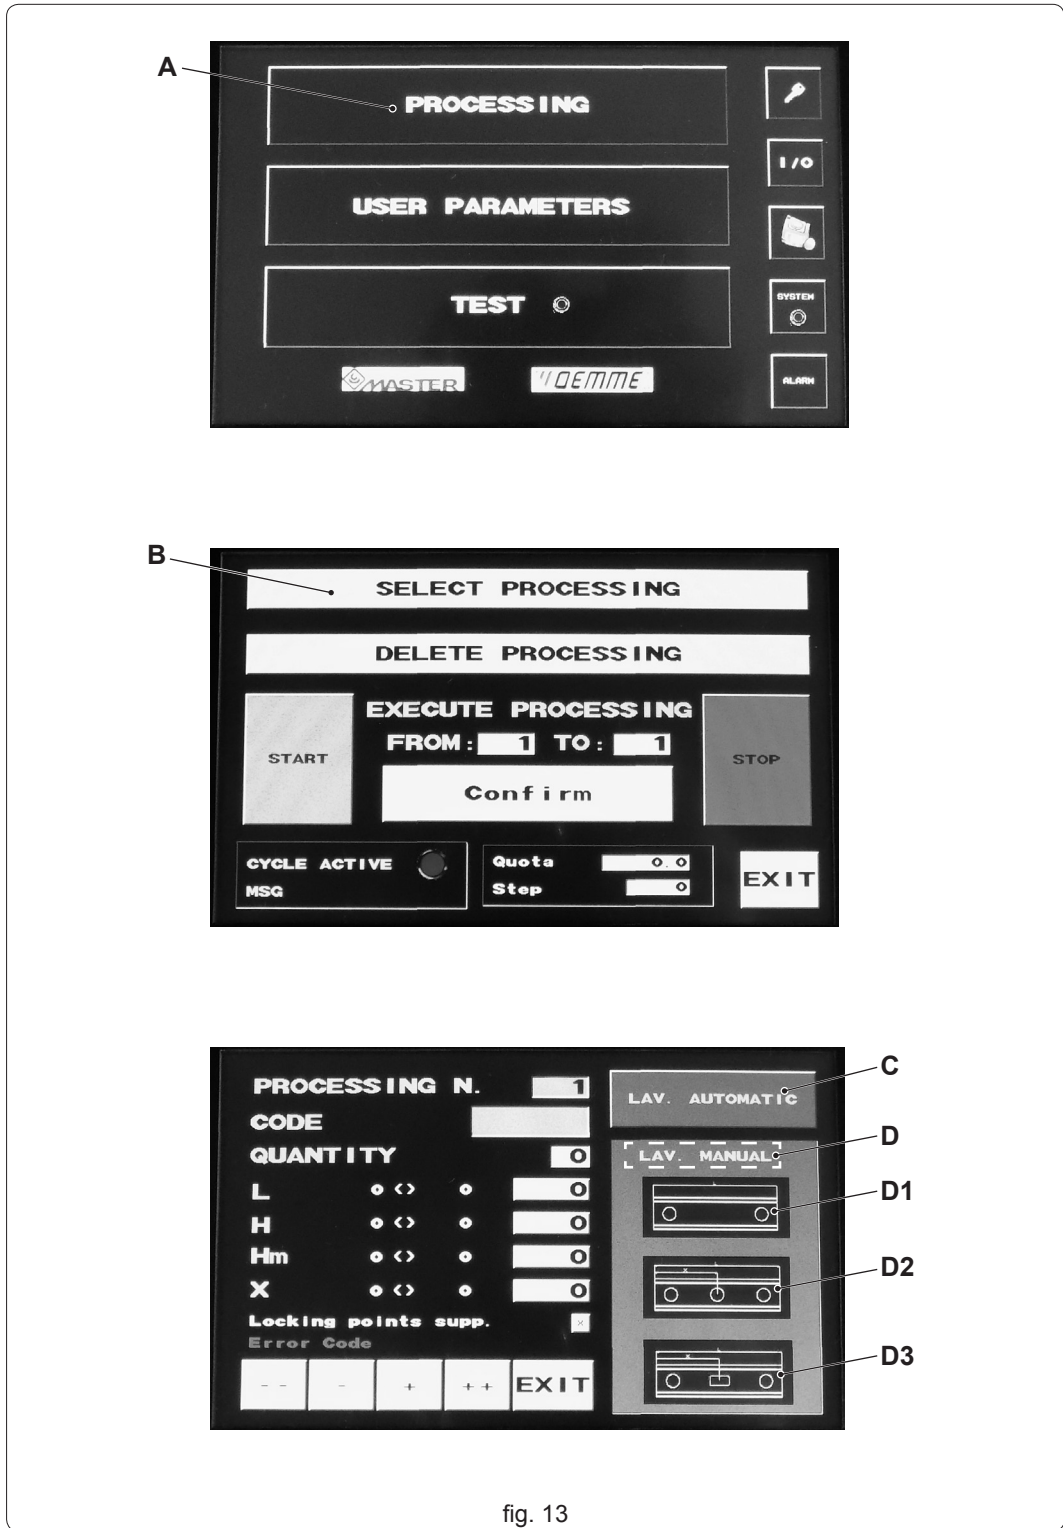
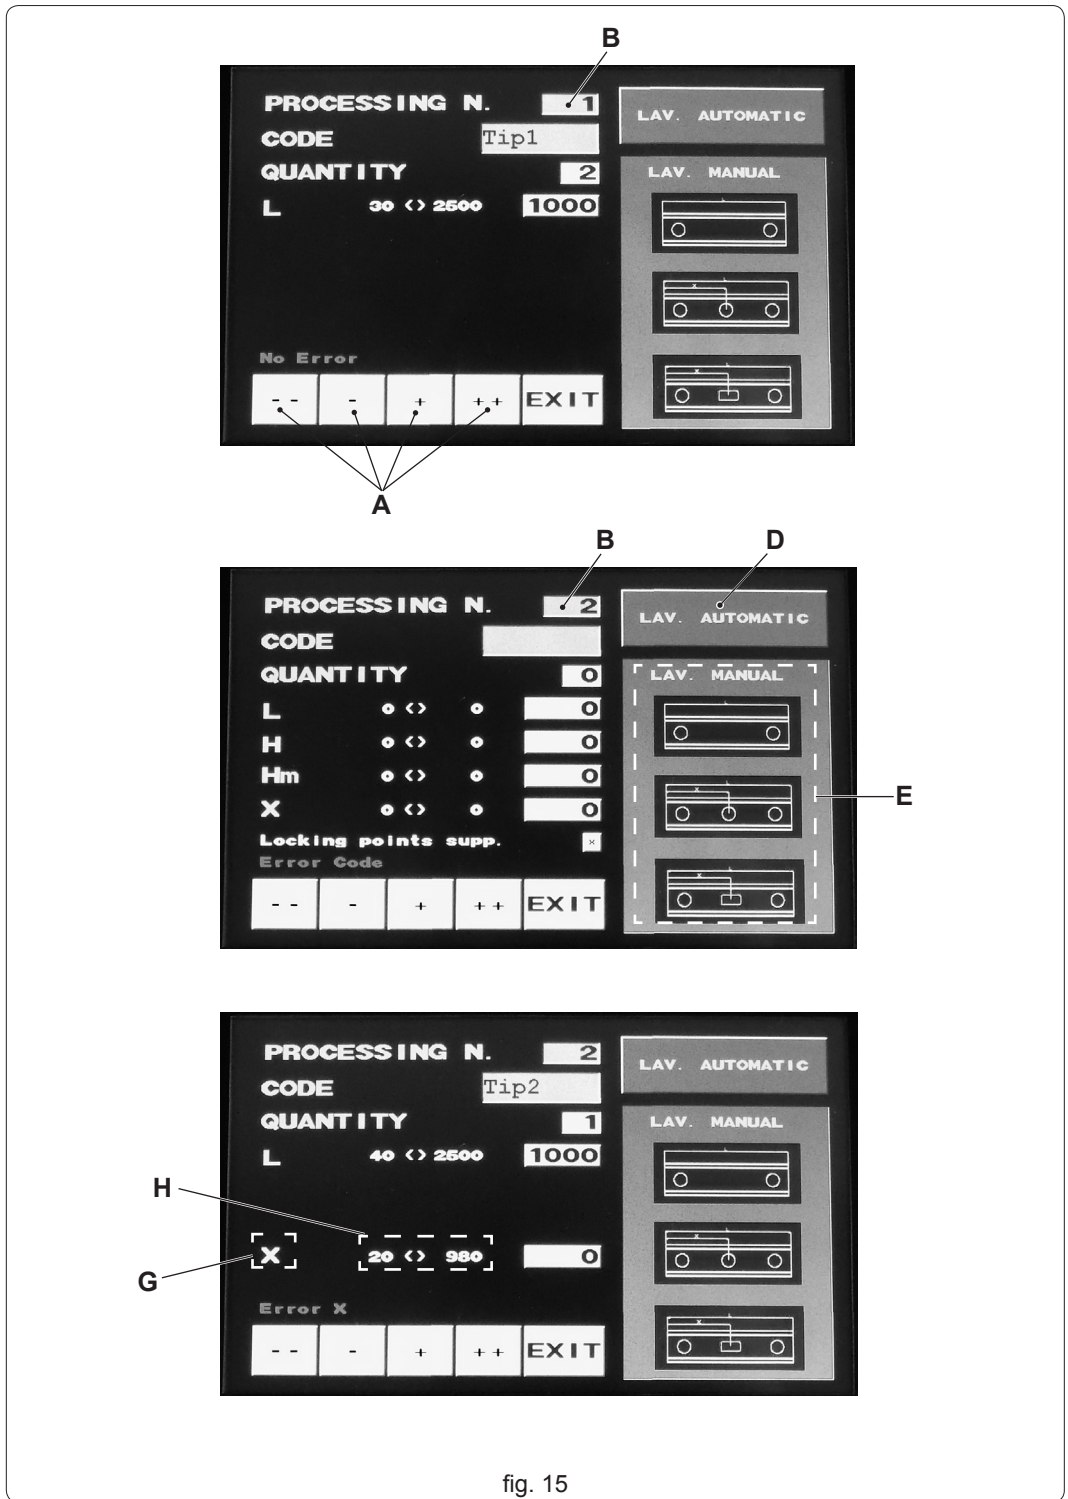
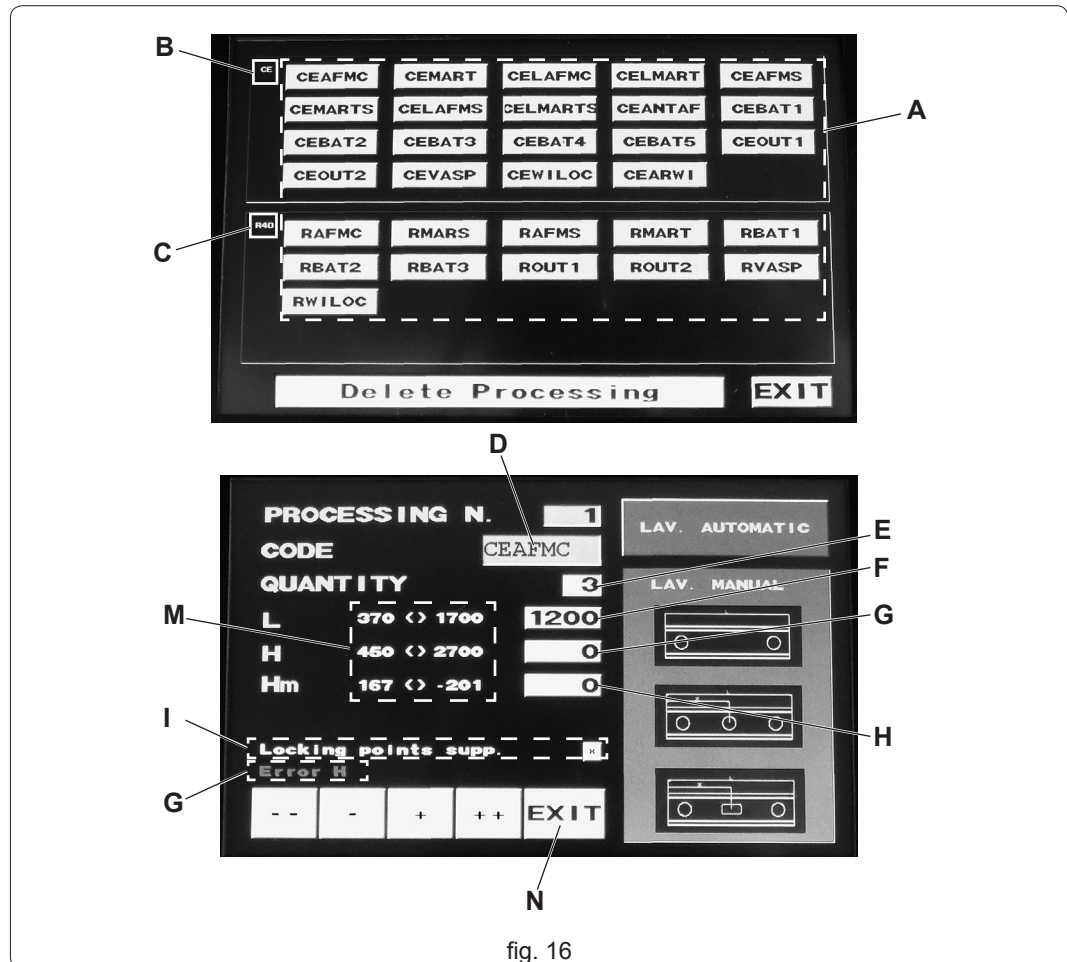

fig. 13
fig. 15
fig. 16
Touch "PROCESSING" (fig. 13 ref. A).
Touch "SELECT PROCESSING (fig. 13 ref. B).
Touch "LAV. AUTOMATIC" (fig. 13 ref. C) if you want to enter in the typologies menu already defined by Master, or touch one of the box of "LAV. MANUAL" (fig. 13 ref. D) depicted with the three preset types (Fig. 13 ref. D1-D2-D3).
If you want to continue with editing another working touch the box “+” (fig. 15 ref. A): the indicator “PROCESSING N.” (fig. 15 ref. B) will advance of a unit (fig. 15 ref. C) and the operator will repeat a new edit by selecting between the automatic workings (fig. 15 ref. D) or manual (fig. 15 ref. E), according to requirements, and entering the data that the software will require.
In the context of the choice of manual operations, if you were to select the type 2 (Fig. 13 ref. D-2) or 3 (Fig. 13 ref. D-3), the software adds the variable “X”, to type in its white frame, relative to the quote of the intermediate hole or slot. In correspondence of the variable “X”, there is the indication of the minimum and maximum measurement (Fig. 15 ref. H) permitted (expressed in millimeters) in function of the measure “L” previously inserted.
During the editing of workings, there is the possibility of storing, in addition to the three manual typologies, even the automatic ones (fig. 16 ref. A) by touching "LAV. AUTOMATIC" (fig. 13 ref. C).
The automatic workings are divided in "CE" type rod (fig. 16 ref. B) and "R40" series rod (fig. 16 ref. C).
Touch the corresponding box to the chosen type: in the "CODE" the name will appear (fig. 16 ref. D).
- "QUANTITY" (fig. 16 ref. E) of rods to be worked (max. 99 for working)
- Width "L" (Fig. 16 ref. F) of sash
- Height "H" (fig. 16 ref. G) of sash
- Height position of the handle "Hm" (fig. 16 ref. H)
- Select or deselect "Locking points supp." (fig. 16 ref. I)
As long as the parameters are not typed (correctly), the system alerts you with a red writing at the bottom of the screen (Fig. 16 ref. L).
In correspondence of the parameters "L", "H" and "Hm" there are the indication of the allowed minimum and maximum measures (fig. 16 ref. M) (expressed in millimeters).
If the parameters are all inserted and without errors, the writing at the bottom of the screen (Fig. 16 ref. L) becomes green with writing "No Error".
Once carried out the requested workings, touch the box "EXIT" (fig. 16 ref. N) to exit: On the video the question "Save?" appears